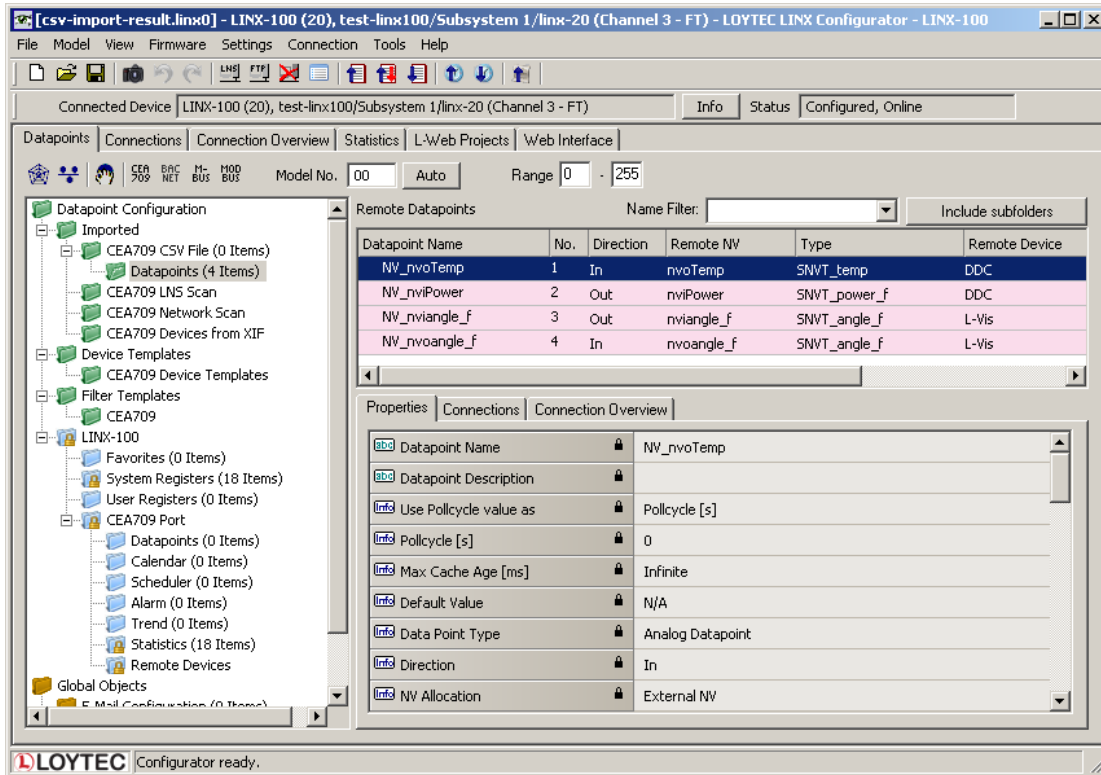

Figure 137: Imported NVs.
4. Now the CSV File folder is populated with the imported NVs as shown in Figure 137.